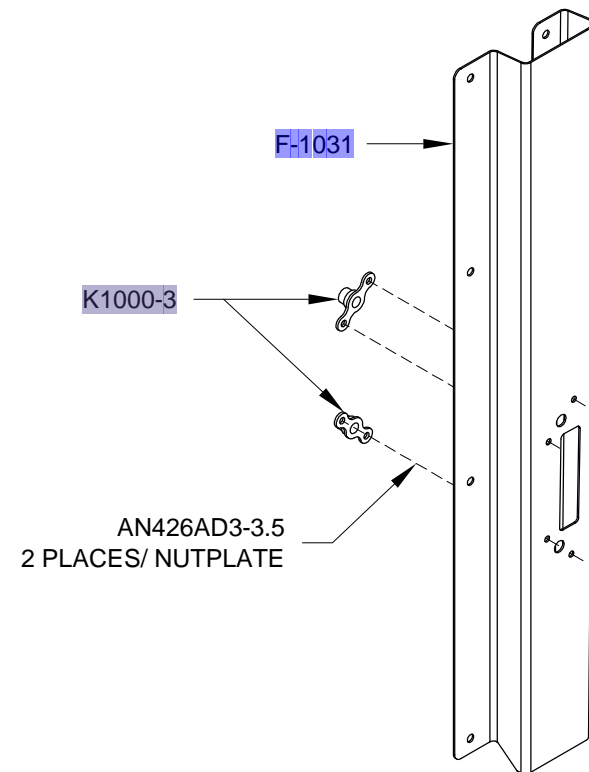

FIGURE 1: RIVETING NUTPLATES TO THE UPPER BAGGAGE DOOR SEAL CHANNEL
Step 2: Rivet in place the **F-1024** Seat Floors, the **F-1022A** Baggage Floors, and the **F-10103A** Lower Seat Hinge Halves using only the rivets called-out in Figure 1. The remainder of the seat floors are riveted in a later section.
Step 1: Install the nutplates shown in Figure 1 using the rivets called-out.
Step 2: Set the five rivets in the aft flange of both F-1022A Baggage Floors using the rivets called-out in Figure 1.